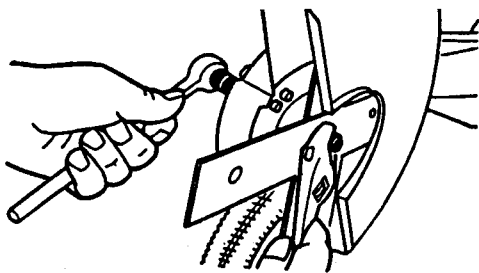

FIG 22
2. Through dust cover hole, place 14 mm socket and place 17 mm wrench on blade nut (Fig. 22).
3. Unscrew nut counter (anti) clockwise (normal right hand thread) (Fig. 22).